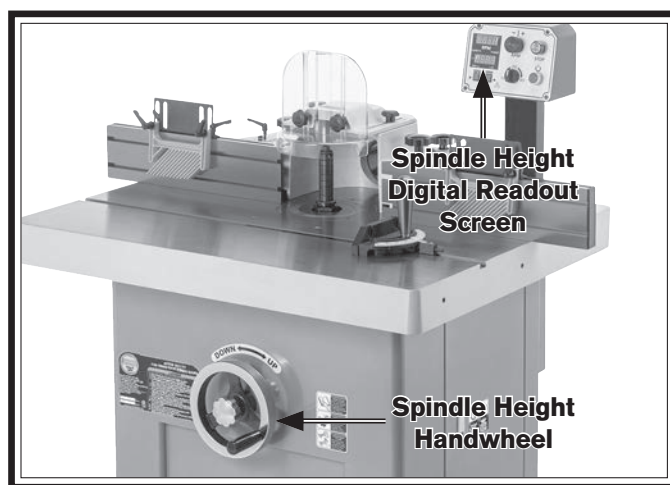

Figure 41. Location of spindle height handwheel.
1. Move spindle up or down with height handwheel until desired position is achieved and displayed on spindle height digital readout screen (see **Figure 41**).